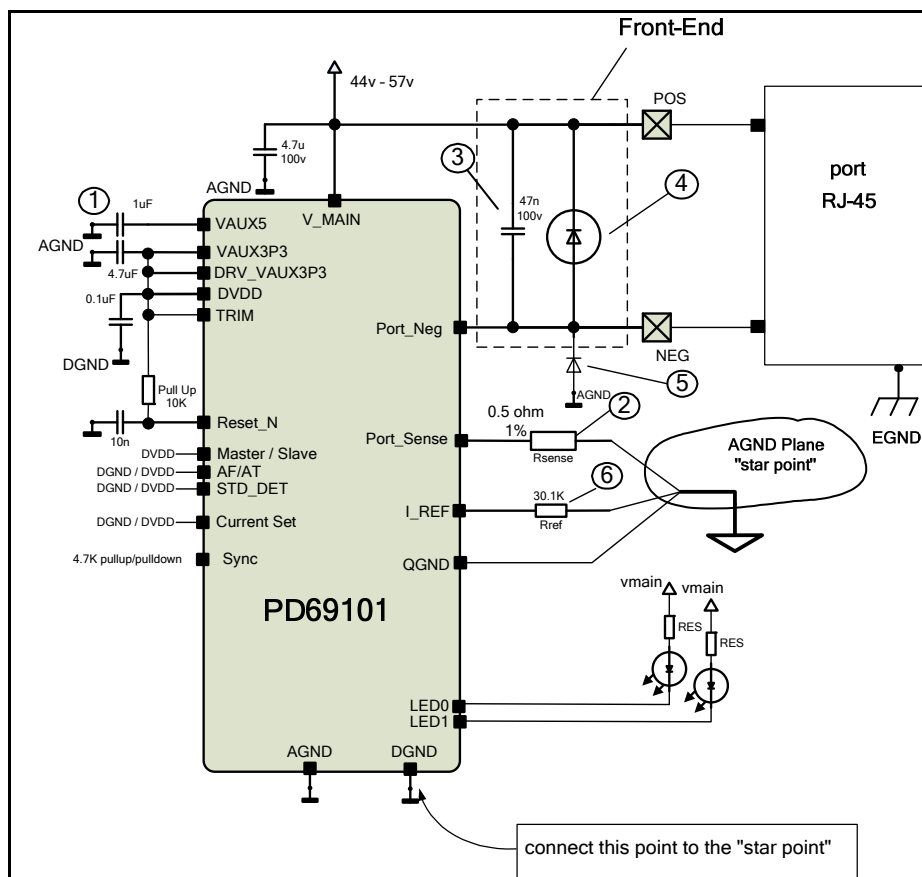

Figure 7: Component Identification for PD69101 Circuitry
Figure 7 describes the various circuits and elements surrounding the PD69101 PoE Manager in a block diagram. This block diagram includes the following peripheral elements, identified by numbers:
- To prevent ground loop currents, use only a single connection point only between the digital and analog grounds. Make this connection at the "star point" of PD69101 as shown in Figure 7.
- The Rsense resistor "star point" connection for the PD69101 is the focal interconnection point for the digital and analog grounds (see Figure 7)
- Place the 4.7 μ F and 1 μ F bypass capacitors (item-1 in Figure 7) from VAUX3P3 and VAUX5 to AGND as close as possible to the respective pins. Its conductors to VAUX3P3, VAUX5 and pin 7 should be as short as possible.